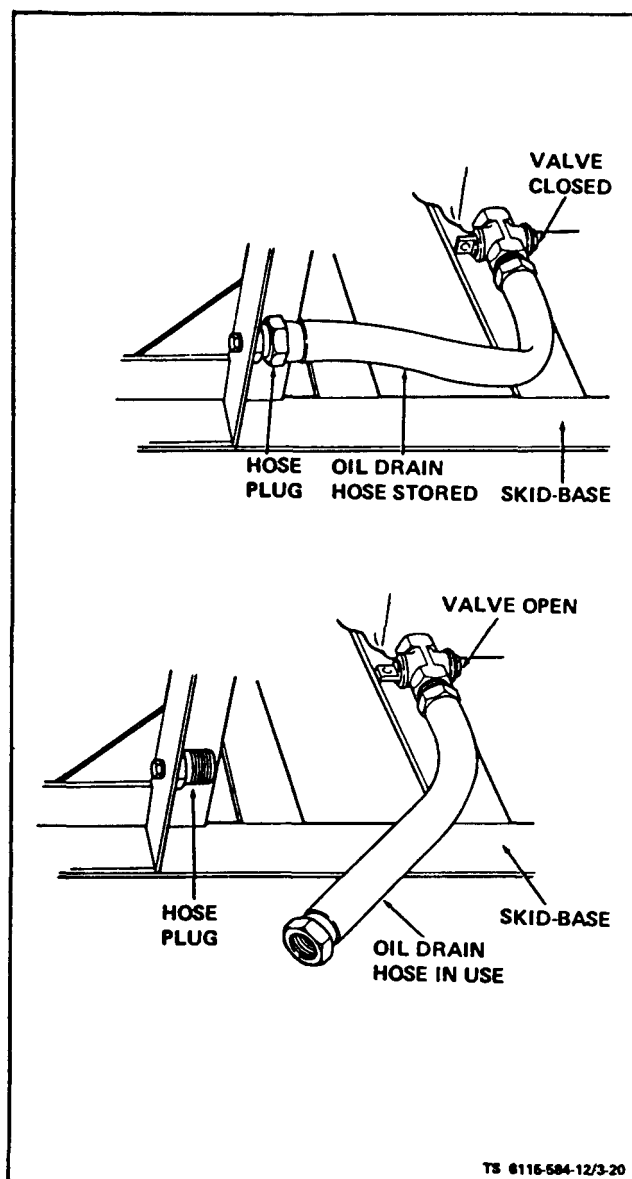

Figure 3-20. Oil Drain Hose
c. Oil Drain Hose (see figure 3-20). On ASK equipped generators, remove oil access door and inspect oil drain hose for physical damage. Check that drain valve operates properly and does not leak when closed. Check that oil drain hose is properly stored when not in use.